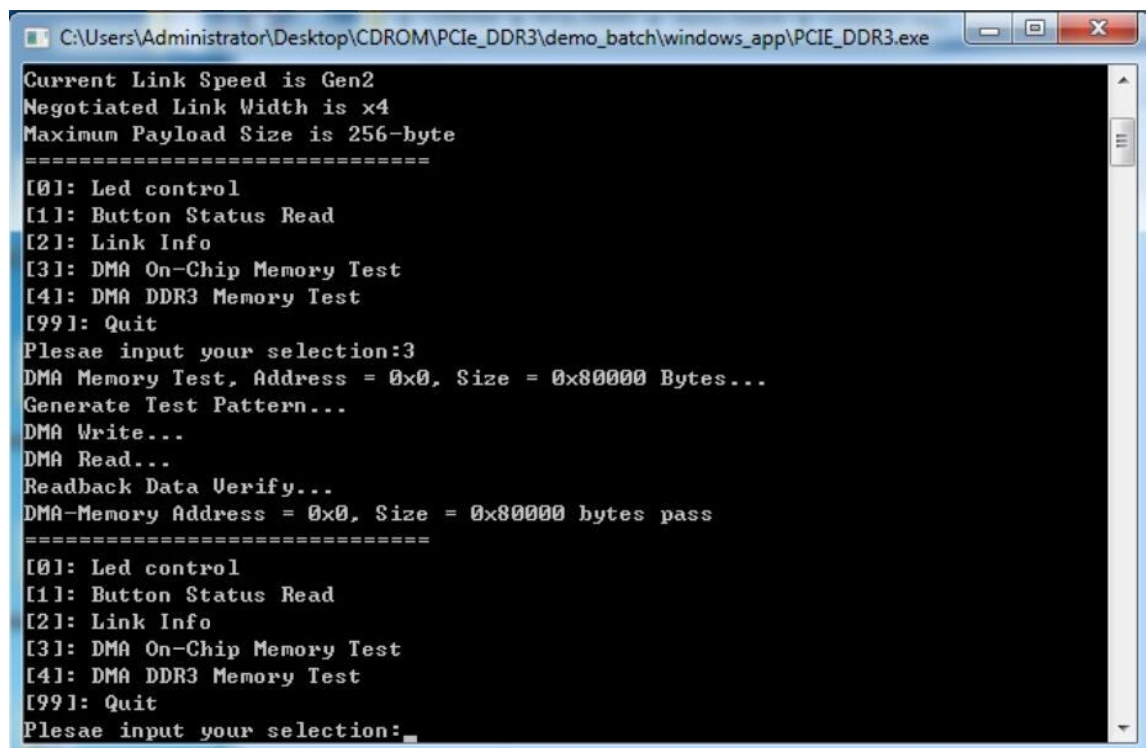

Figure 7-18 Screenshot of On-Chip Memory DMA Test Result
9. Type 3 followed by the ENTER key to select DMA On-Chip Memory Test item. The DMA write and read test result will be reported as shown in **Figure 7-18**.